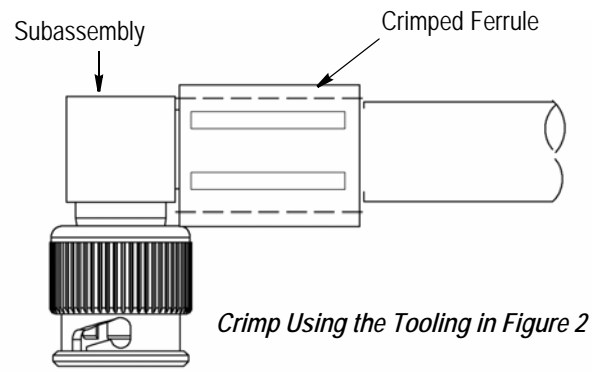

Figure 5
5. Crimp using the tooling listed in Figure 2. See Figure 5.